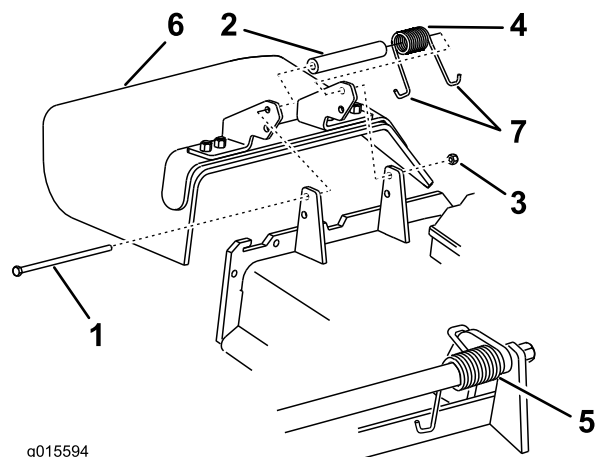

Figure 84
1. Remove the locknut, bolt, spring and spacer holding the deflector to the pivot brackets (Figure 84). Remove damaged or worn grass deflector.
Note: Make sure one J end of spring is installed behind deck edge before installing the bolt as shown in Figure 84.
3. Install bolt and nut. Place one J hook end of spring around grass deflector (Figure 84).